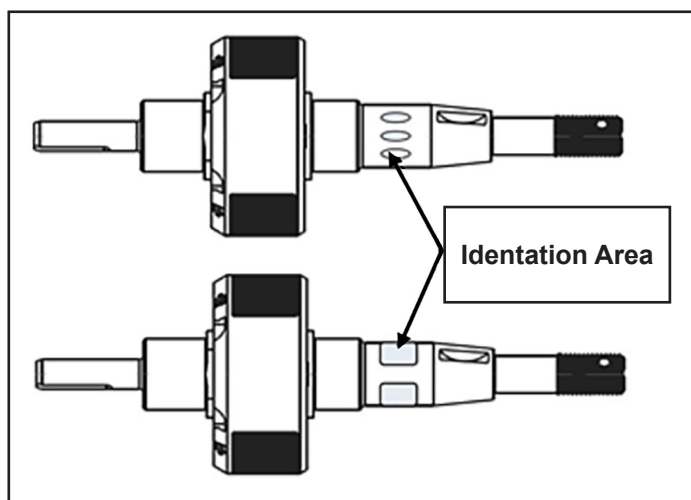

Figure 4.6 – Acceptable Pawl Indentations
- 4) For impulse coupled magnetos only, the area just outside of the oil seal can be contacted by the inner end of the drive coupling pawls. The contact from the pawls can form indentations in the rotor shaft. As necessary, lightly dress the shaft with a Scotchbrite pad to remove raised material and blend edges. Mask oil seal area to ensure debris from this operation does not contaminate the seal. Refer to Figure 4.6.